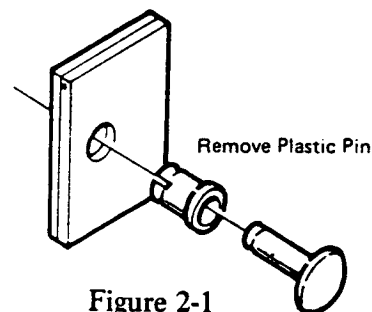

Figure 2-1
4. Remove the four plastic pins that are fastened to the rear panel terminal board, as shown in Figure 2-1.